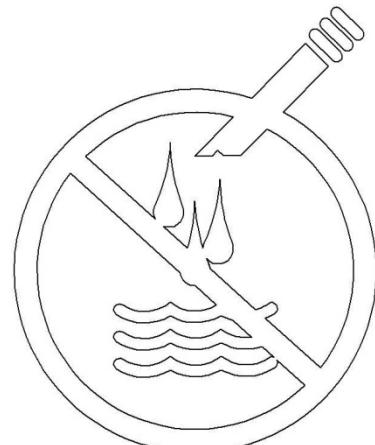

FIGURE 4
3. Ensure the vacuum control switch is in the **Vacuum Dry** setting. See FIGURE 4 below and on vacuum head.